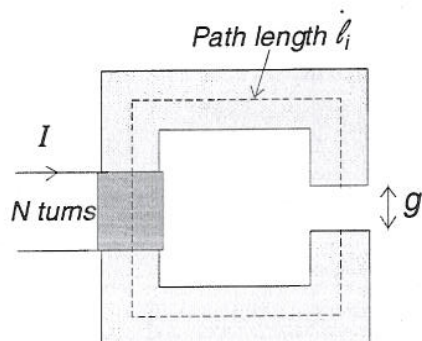

Figure 4.1
4. An iron C-core as shown in Fig. 4.1 has a gap length of $g = 0.5 \text{ mm}$, a total path length in the iron of $\ell_i = 40 \text{ cm}$, and the coil has 200 turns